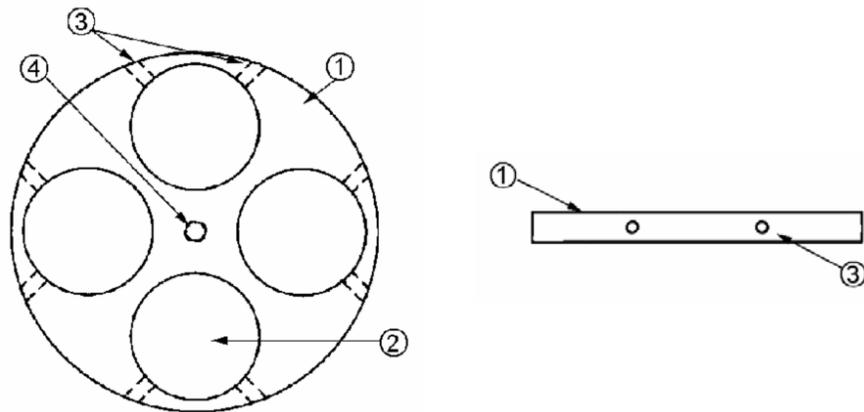

Figure 10: Schematic drawing of Model 92006 fixture.
5. Tighten the set screws (Figure 10, #3) located on the Model 92006 to lock the specimens into position.